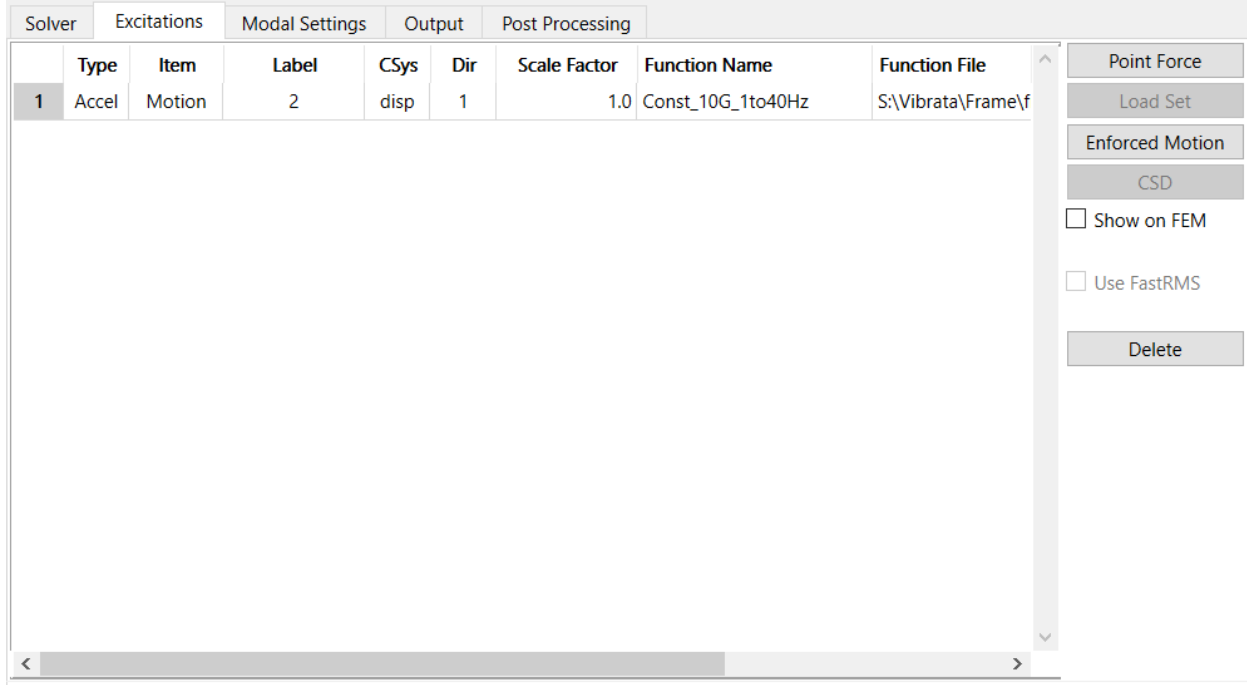

Figure 4-31. *Excitations* tab with resulting enforced motion definition.
- e. Select the constant forcing function for the first event. Your *Excitations* tab should look like Figure 4-31. Note that the excitation, because it is an enforced motion, is taken to be in the driven node's displacement coordinate system.